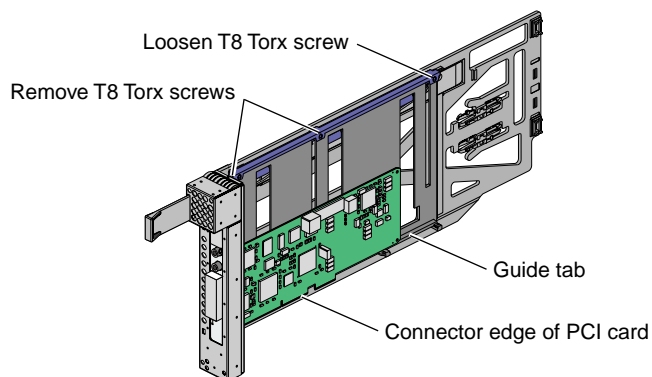

Figure 2-6 Mounting Half-height PCI Card into Carrier
4. **For a half-height PCI card**, remove the two T8 Torx screws from the adjustment rail, as shown in Figure 2-6.
Place the half-height PCI card in the carrier so that the connector edge of the card rests against the lower guide tab of the carrier (see Figure 2-6).